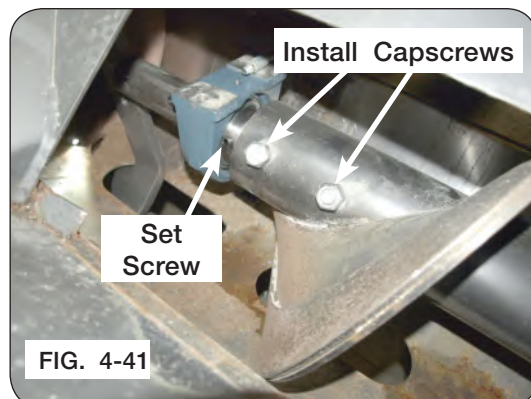

FIG. 4-41
NOTE: Make sure the set screws on bearing are towards the front of the cart. (Fig. 4-41)
18. Slide bearing onto 5-pin driver. (Fig. 4-41)
20. Insert capscrews from opposite sides through auger, bushing and driver. Slide spacer bushings over threads and install locknuts. Hand tighten hardware at this time. (Fig. 4-41)